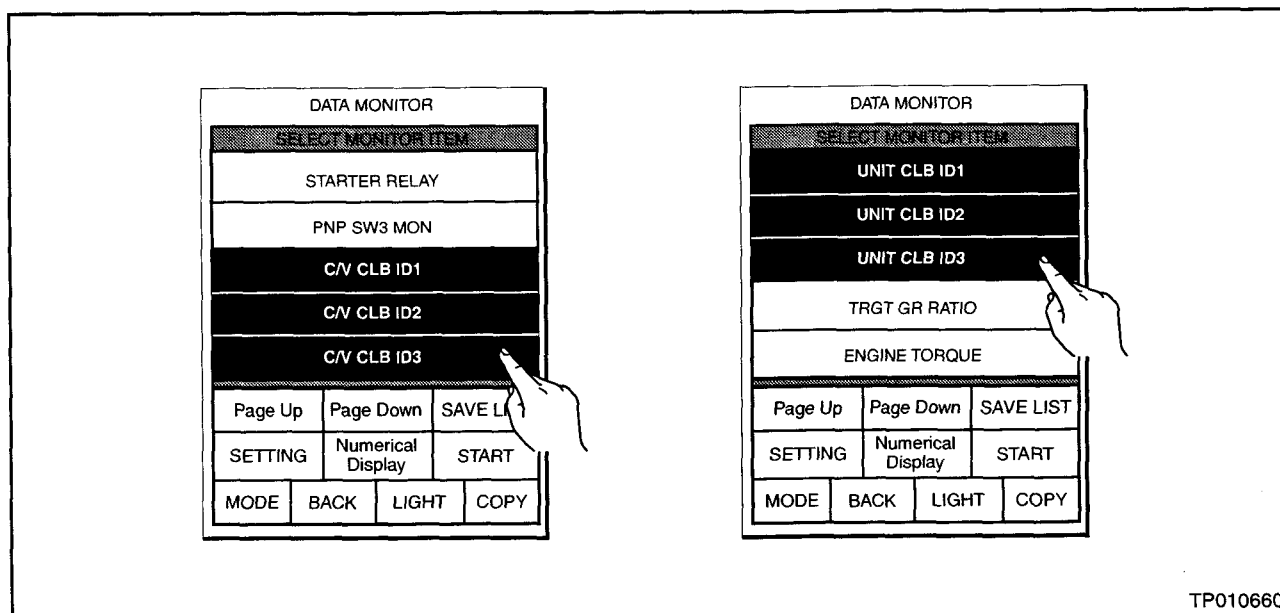

Figure 15
57. Scroll down and select the following items (see Figure 15):